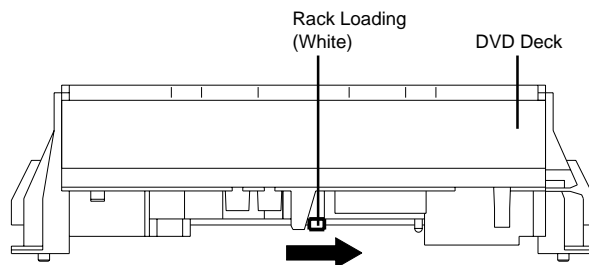

Fig. 1
1. Remove the Top Cabinet and Front Cabinet. (Refer to item 1 of the **DISASSEMBLY INSTRUCTIONS.**)
3. Draw the Tray. (Refer to Fig. 1)